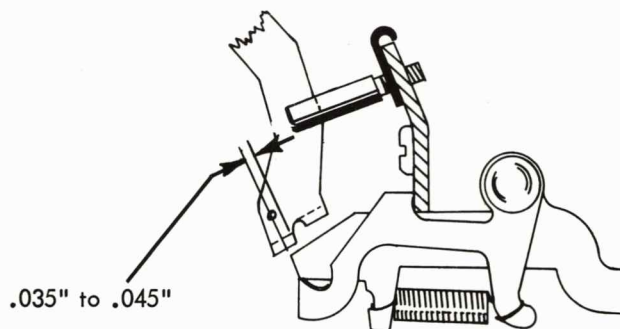

FIGURE 111. Keylever Pawl Overlap Adjustment
1. **Keylever Pawl Overlap** - Adjust each keylever pawl guide stud so that all the keylever pawls overlap their respective interposers by  $.035"$  to  $.045"$  with both parts at rest (Fig. 111).